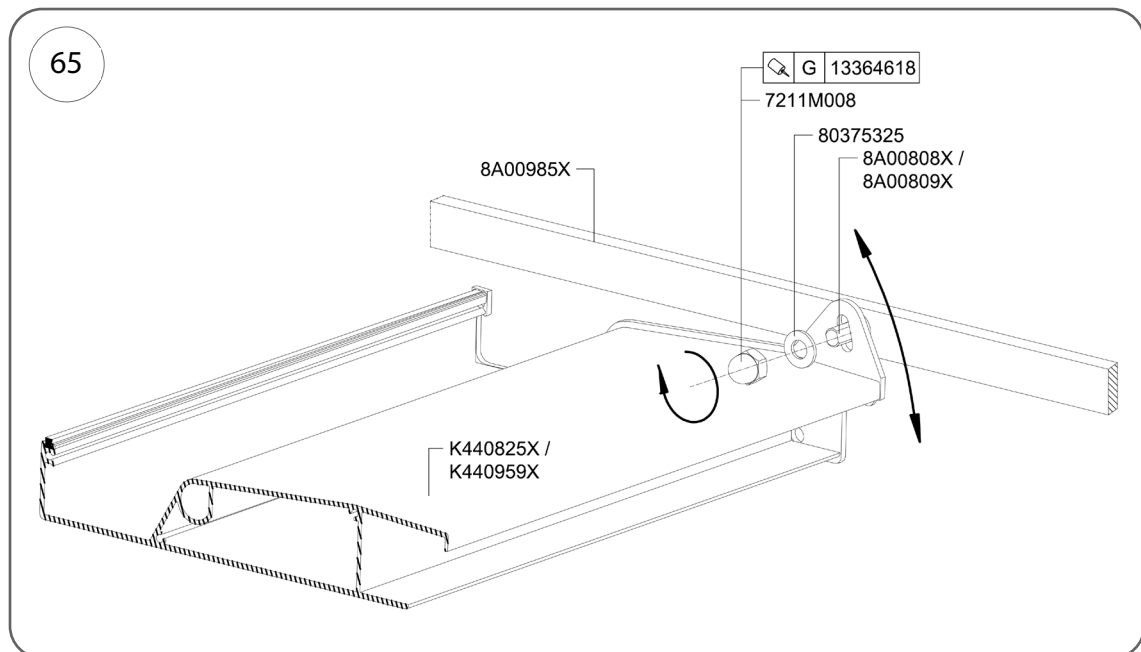

Fig. 65
4. In the closed end position, check that the slat profiles are in contact with each other. Correct any unevenness in the roof using the adjustment system shown in Fig. 65. Once the roof is positioned, lock the slats in place by tightening the locking nut (cat. no. 7211M008). Apply thread sealant (cat. no. 13364618) to the thread.